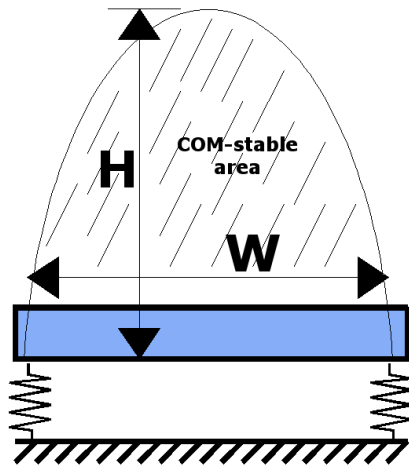

Figure 3: The region of COM stability
Figure 3 shows a diagram of a platform resting on two isolators (represented as springs). There is a parabola above the table of height (H) and base width (W). If the payload's center-of-mass is inside